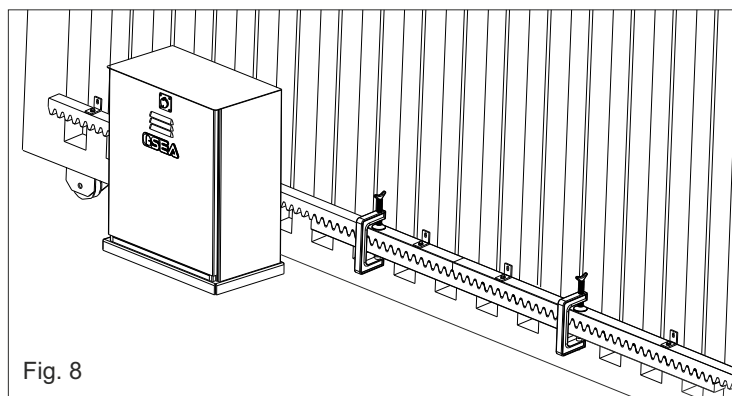

Fig. 8
5.4. Make sure that all the gear rack elements are perfectly aligned and placed correctly (teeth in phase). It's suggested to place two aligned elements in front of a third one as shown in Fig.8;